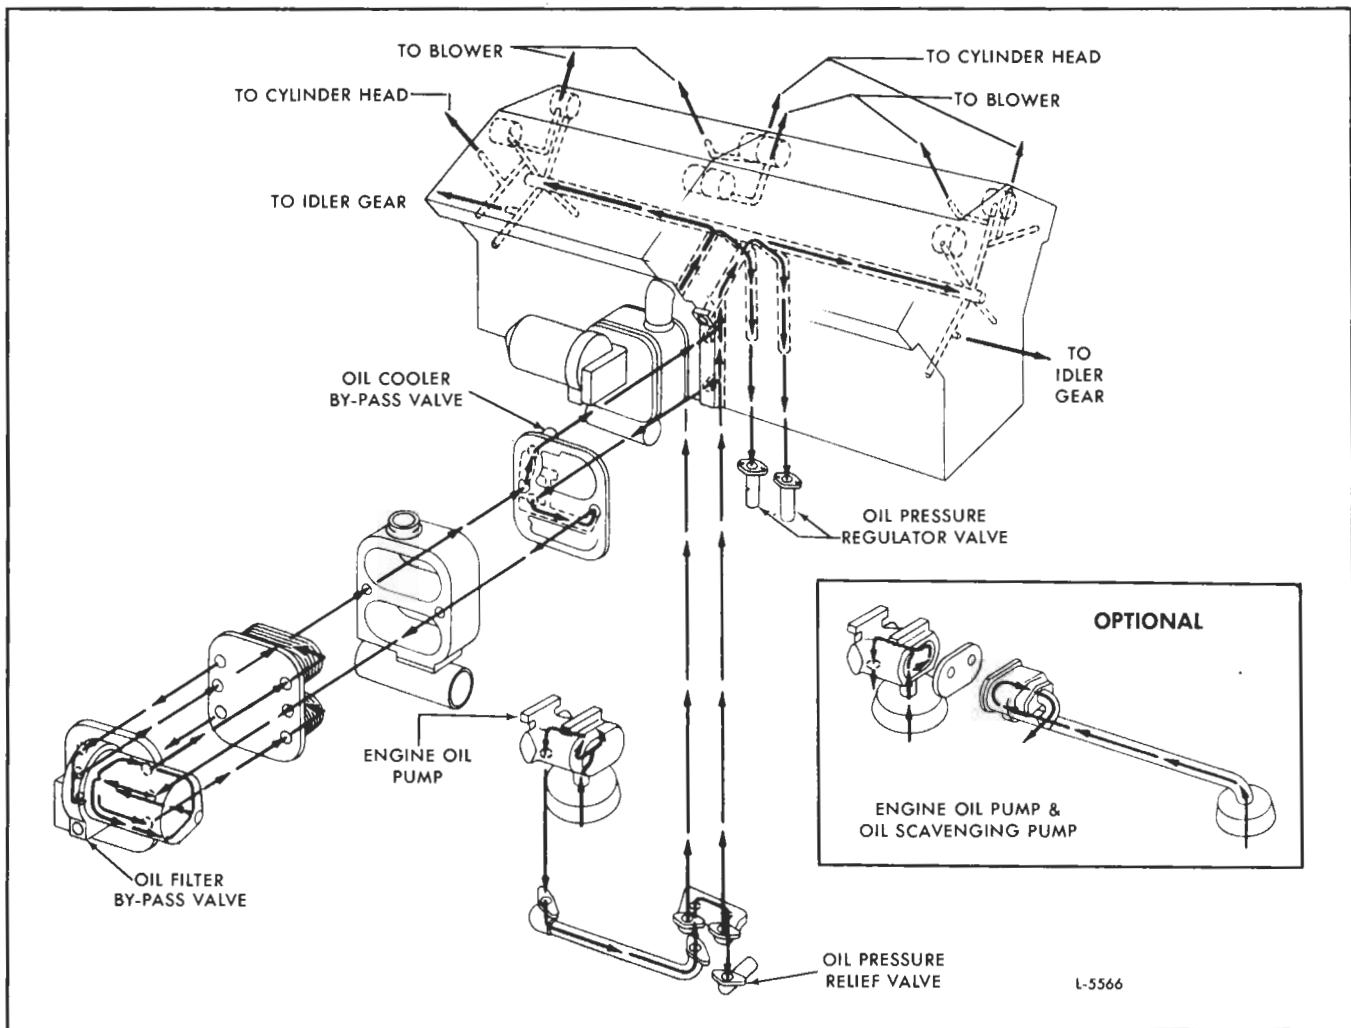

Fig. 2 - Schematic Diagram of Typical 16V Lubrication System
Figure 2 schematically illustrates the flow of oil through a typical 16V-92 engine lubrication system.
**NOTE:** Do not use the oil gallery on the upper bank at the front of each cylinder block (Fig. 2) for an oil supply or pressure take-off. This oil gallery intersects the cylinder head oil supply gallery. If used, it will reduce pressure to the rocker arm assemblies.
Stabilized lubricating oil pressure is maintained within the engine at all speeds, regardless of the oil temperature, by two pressure regulator valves located at the end of the vertical oil galleries (Fig. 2). When the oil pressure at the regulator valves exceeds 50 psi (345 kPa), the valves open, discharging excess oil back into the oil sump.